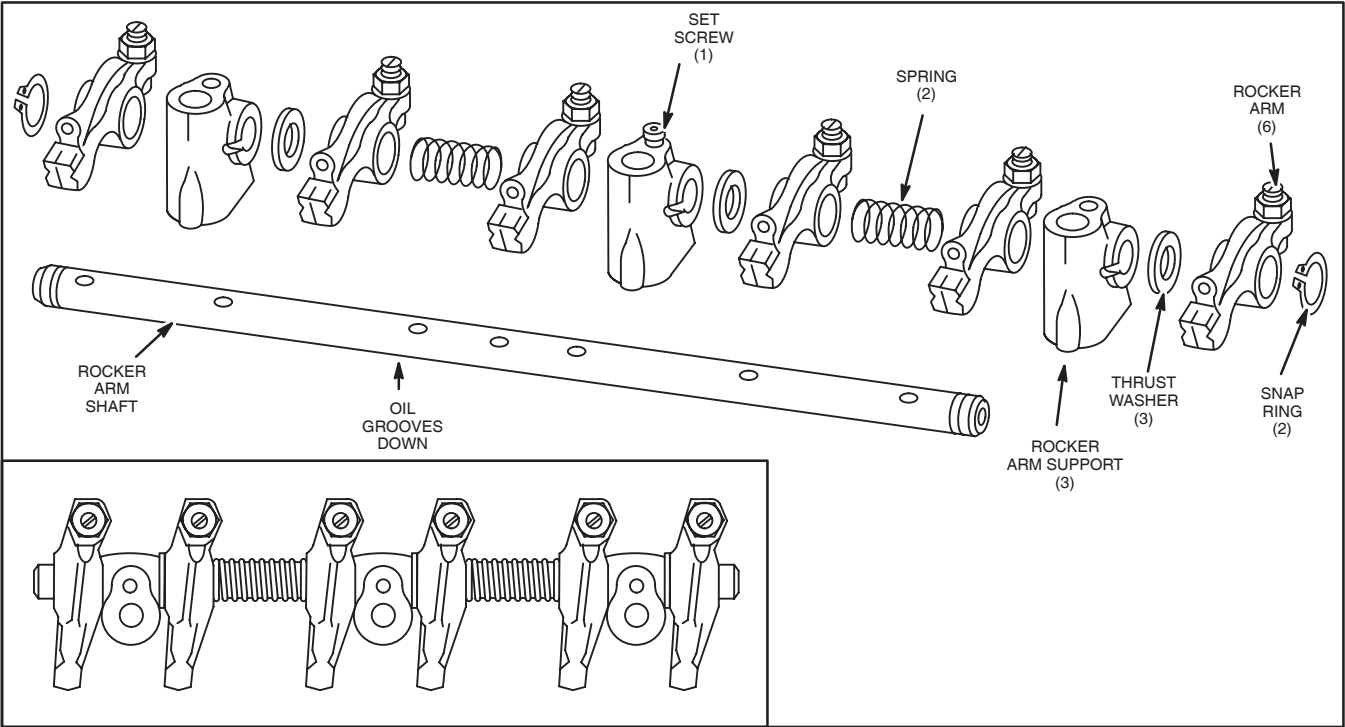

Fig. 27 – Rocker Arm Components
- 1. Oil all components before assembling. Small grooves in rocker shaft next to oil holes must face down. Assemble rocker arm components, noting order of assembly as shown in Fig. 27. Note position of three thrust washers. Install set screw in center rocker arm shaft support.